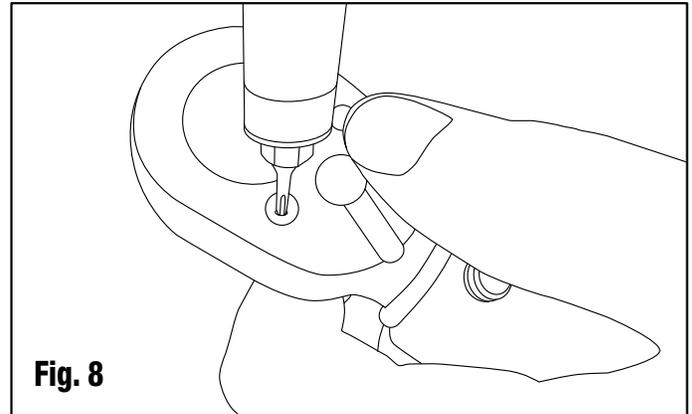

**Fig. 7**
**Step 7:** Place the lid on the driver with the chamfer side of the lid facing out. See Fig. 7